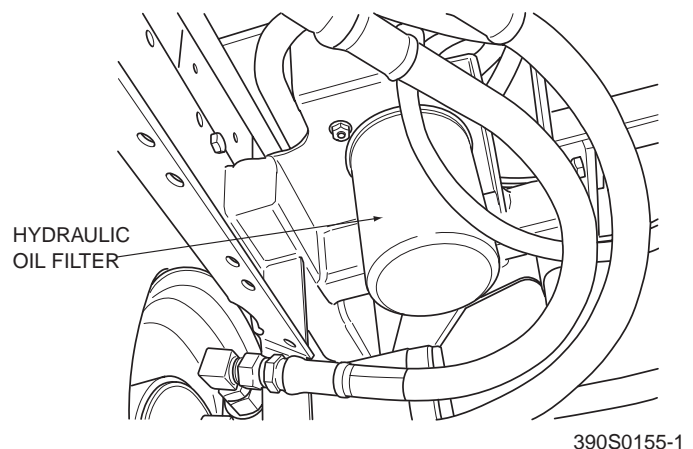

Figure 7-3. Hydraulic Oil Filter
1. Remove the oil filter element and properly discard it. Fill the new filter with clean oil and install the filter. Hand tighten only. See Figure 7-3.